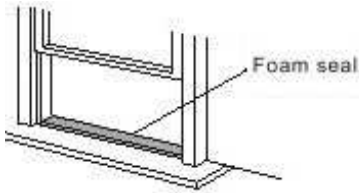

Fig.4
1. Trim foam seal (adhesive type) to the proper length and attach to window stool. (Fig.4)